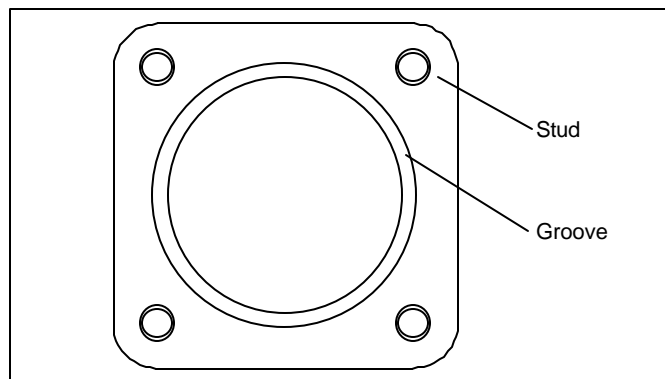

Figure 2 - Valve Mounting Cover Plate Groove
1) Remove the old valve and then insert a soft rubber plug into the tank opening to block debris during cleaning of the valve mounting groove and studs (Fig. 2) of the tank car flange.